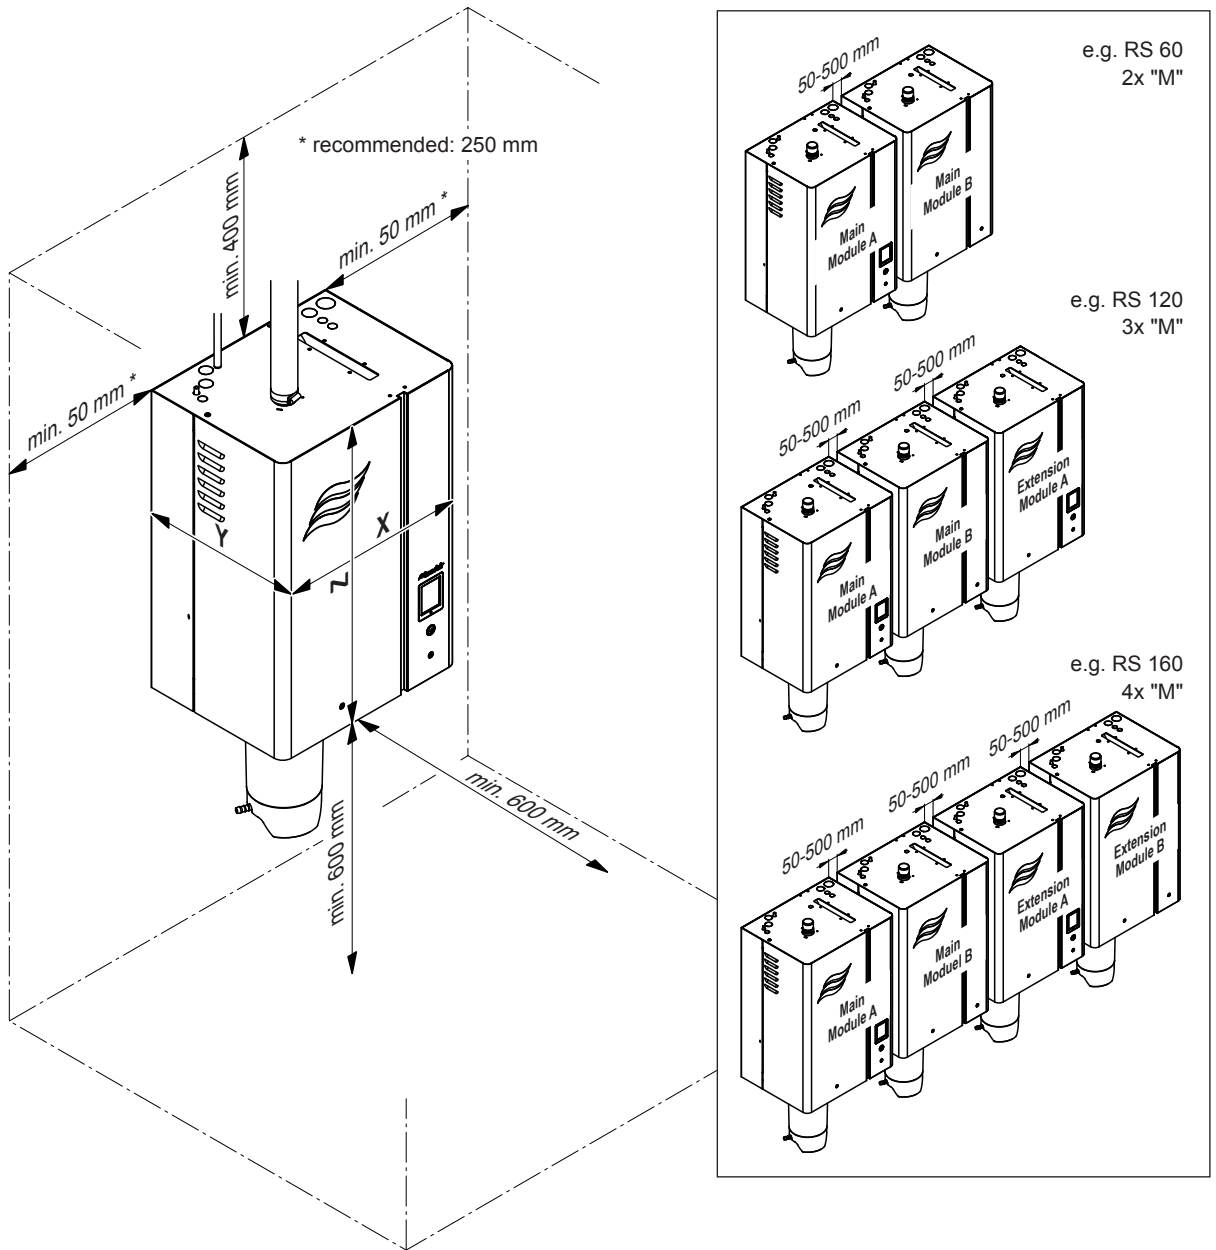

Fig. 9: Distances to be observed
- Install the Condair RS in such a manner that it is **freely accessible** with sufficient space available for maintenance purposes. The **minimum distances** shown in Fig. 9 **must be maintained**.
- In order to use the cables supplied with double units and Linkup systems, the units must be mounted on the same height, with a minimum distance of 50 mm and a maximum distance of 500 mm between the units and in the order shown in Fig. 9.